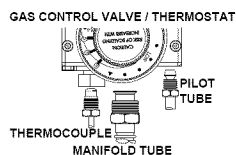

FIGURE 29.
6. Disconnect the thermocouple (right-hand thread), pilot tube, the igniter wire from the igniter button, the two connectors attached to the thermal switch, and manifold tube at the gas control valve/thermostat. (Figures 29 & 30.)
5. Disconnect the igniter wire from the igniter, then remove the igniter from the bracket by depressing the front and rear holding tabs and lift. Next, remove the igniter bracket from the gas valve. Disconnect the thermocouple (right-hand threads), pilot tube, and manifold tube at the gas control valve/thermostat (Figure 29). Also disconnect the thermal switch wires.